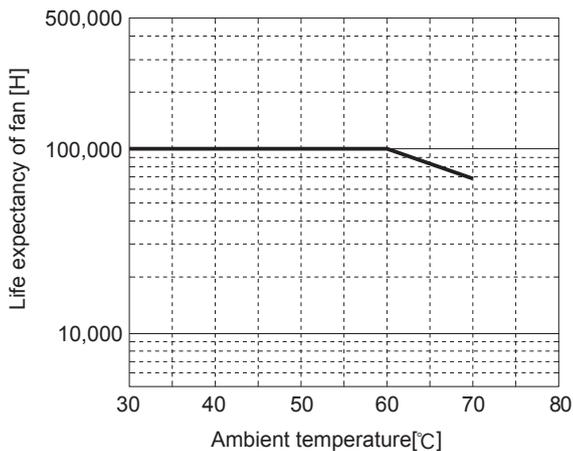

Fig.5.1 Life expectancy of fan
■ Life expectancy (R(t)=90%) of fan depends on use conditions as shown in Fig.5.1.